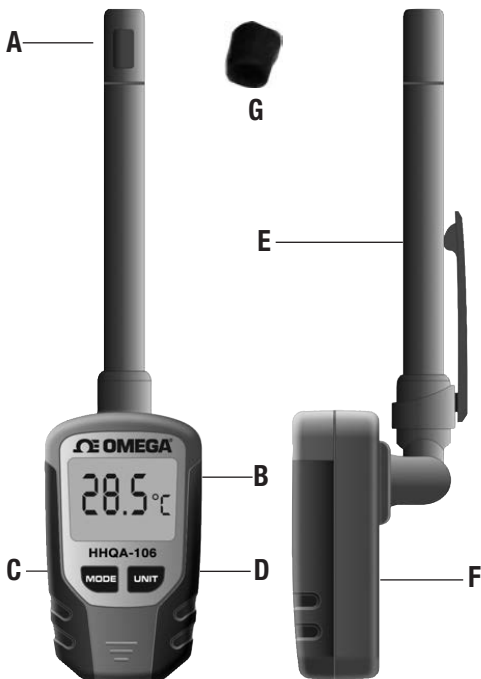
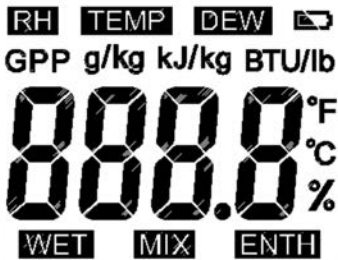

Fig. 1. The HHAQ-106's controls, indicators and physical structures
Fig. 2. All possible display indications and their meanings
Figure 1 shows all of the controls, indicators and physical structures on the front and back of the HHAQ-106. Figure 2 shows all text and icons that could appear on the unit’s LCD. Familiarize yourself with the positions and functions of all buttons, structures and icons before moving on to the Setup Instructions and Operating Instructions.
1. The meter's battery compartment (Fig. 1, Callout F) is accessible from the bottom of the unit. Slide the battery compartment cover down and away from the HHAQ-106 and set it aside.
Before making any measurements, rotate the sensor protection cap (Fig. 1, Callout A) with your thumb and index finger so both of its vents are open to the ambient environment. Press the **MODE** button to power on the meter. The LCD will immediately begin reading out the RH value of the environment. The reading will be accompanied by the term **RH** in the upper left corner of the LCD.